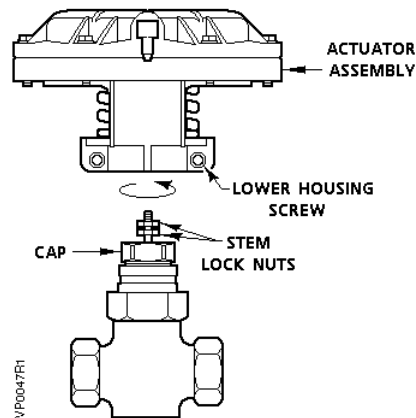

Figure 2. Actuator Replacement.
3. Unscrew the actuator assembly from the stem as shown in Figure 2.